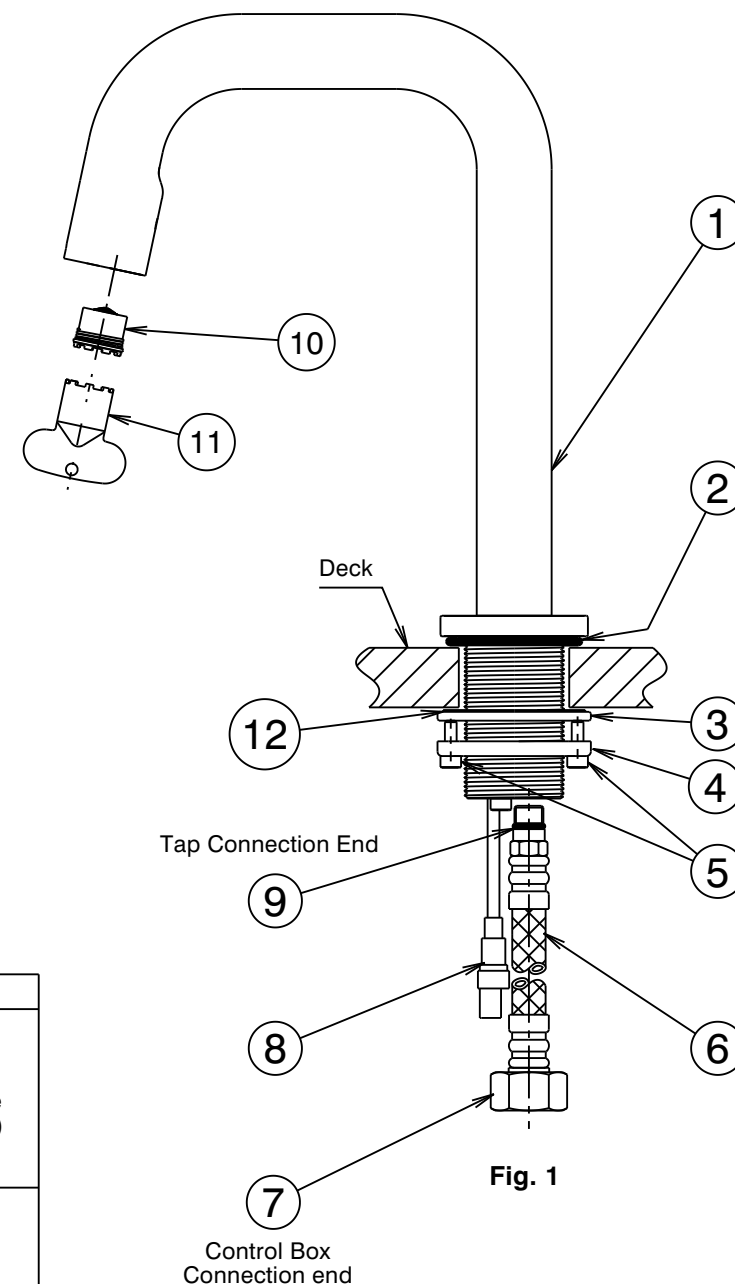

Fig. 1
- 1) From fixing pack fit 'O'ring (2) into groove of outlet base (1).
- 2) **Flexible Tail Connection:** Apply suitable lubricant to 'O'ring (9). Fit flexible tail (6) into threaded hole in base of outlet (1). Hand tighten the flexible tail, ensuring the 'O'ring (9) has fully entered the sealing bore to provide a watertight joint.
- 3) Insert the control box connection end (7) of the flexible tail (6) and the sensor cable (8) through the hole in the deck. Place outlet into deck hole, slide rubber washer (12) and metal washer (3) over threaded tail of outlet as shown in Fig. 1. Screw clamp ring (4) onto threaded tail until it contacts washer (3) then tighten screws (5) equally until outlet is clamped firmly to the deck. DO NOT OVERTIGHTEN.